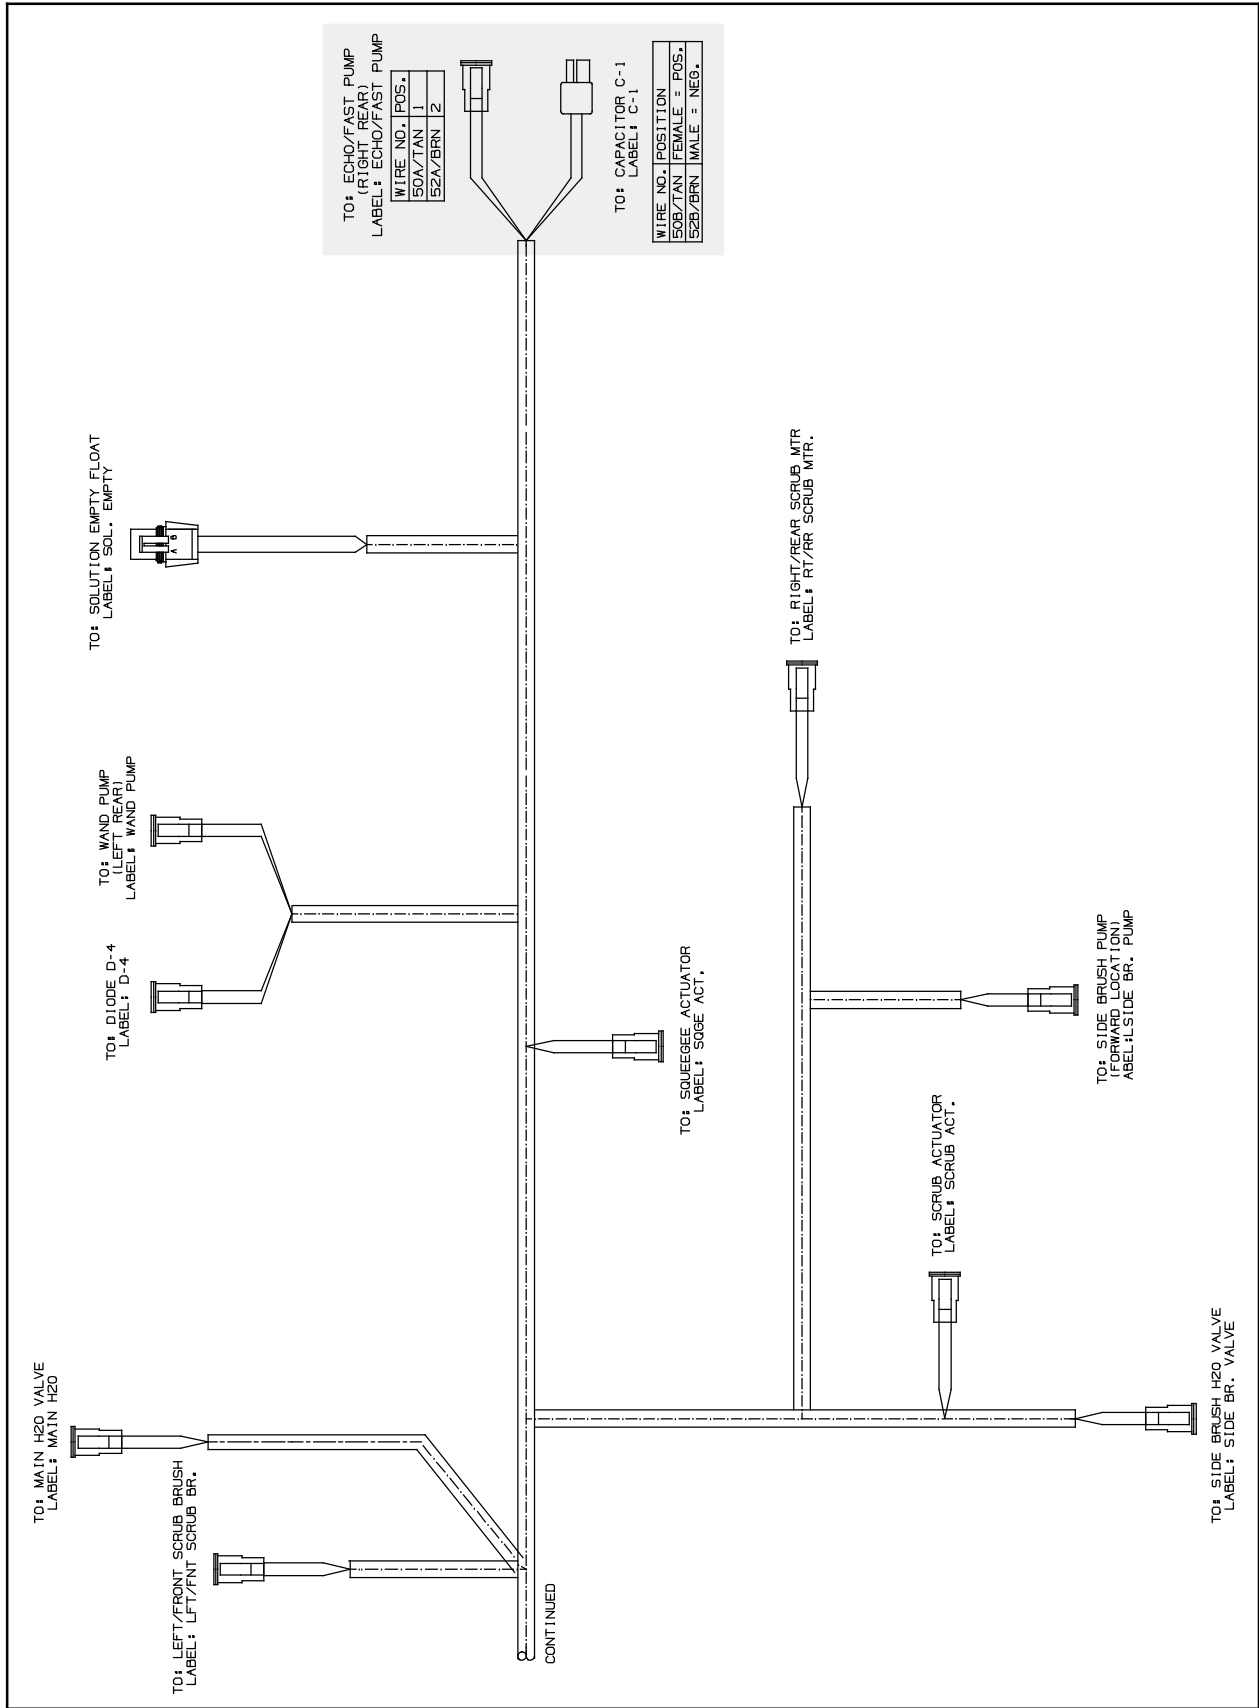

FIG. 19
14. Connect the main wire harness to the solution pump (23). (Fig. 19 / Fig. 21)
15. Connect the capacitor (37) to the main wire harness. (Fig. 19 / Fig. 21)